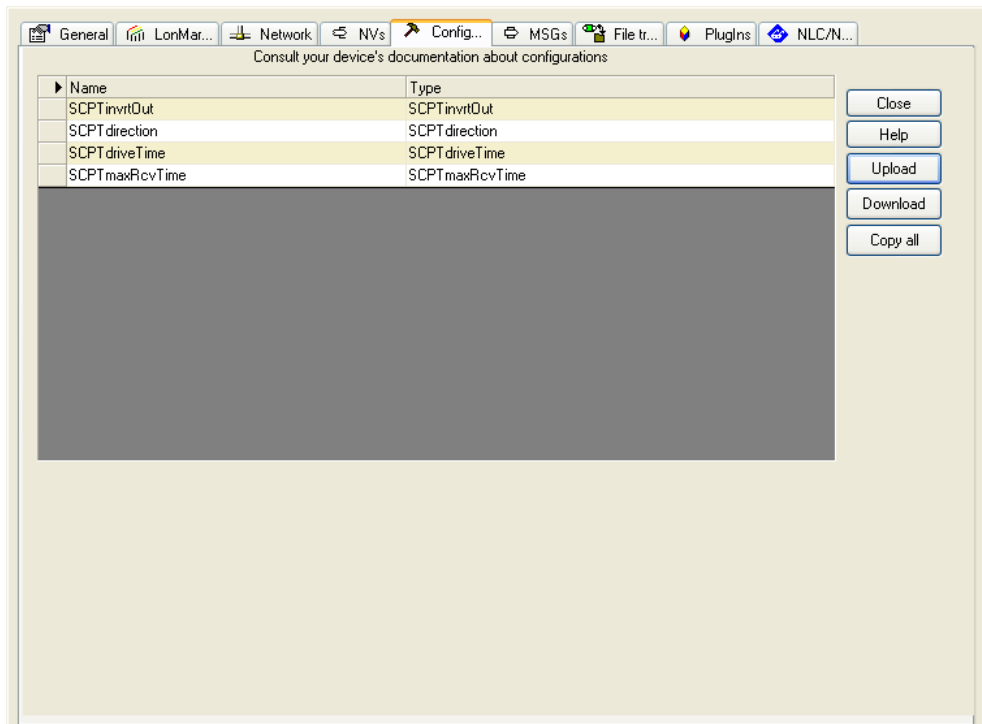

Figure 193: Configuration Tab for Configuration Properties in NL220.
2. Press the **Upload** button on the Configuration tab of the device properties (see Figure 193).